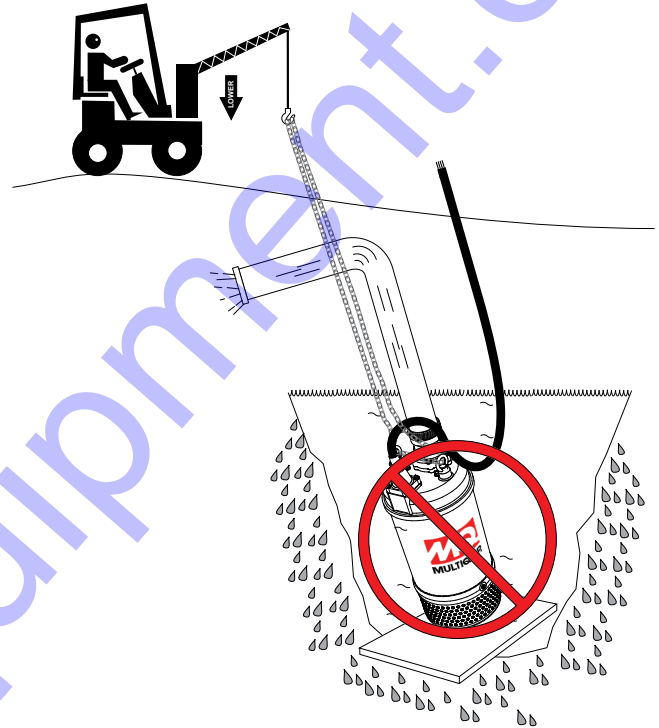

Figure 10. Tilted Position (Incorrect)
2. Make sure the pump is always placed in an upright position, not tilted (Figure 10). Never position the pump directly on a soft, loose bottom. To attain maximum pumping capacity and prevent excessive wear, position the pump so it will not burrow itself into sand or clay.